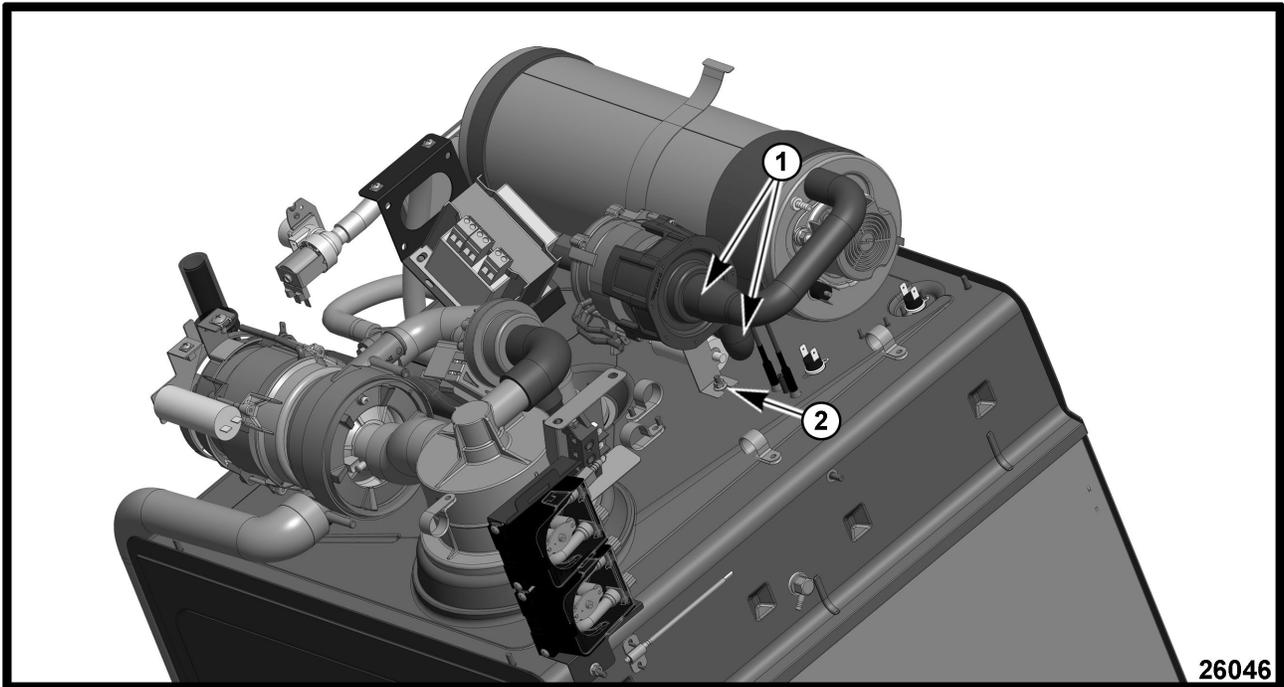

Fig. 29
5. Disconnect and remove hoses from rinse pump motor (1, Fig. 29).
6. Loosen hardware with bracket and remove rinse pump motor (2, Fig. 29).